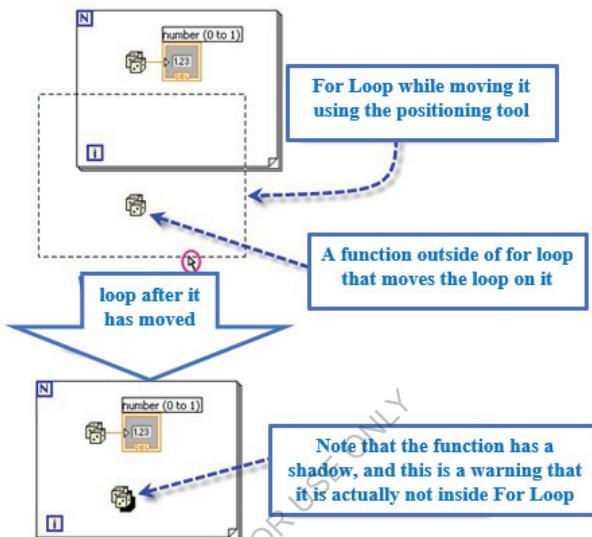

Figure 2.114: Function outside the For-Loop
- **Note** that if you move For Loop to cover SubVI or a function, a shadow will appear for this function to warn you that it is not inside **For Loop**, as shown in figure 2.114.